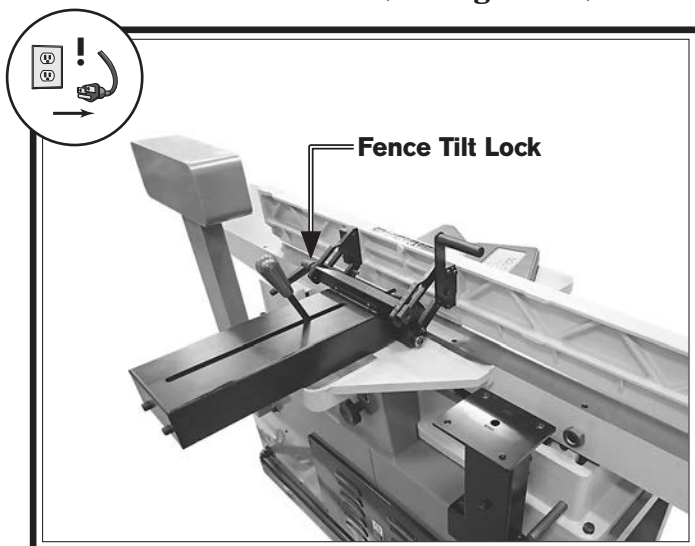

Figure 54. Fence tilt lock location.
2. Loosen fence tilt lock (see **Figure 54**).